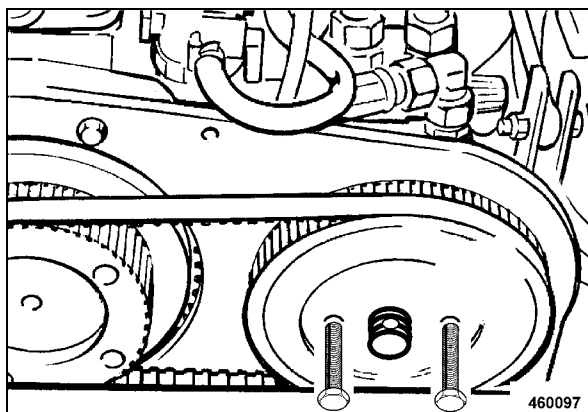

Fig. 132
- Use two forcing screws M8 X60 to press the toothed belt pulley off the retaining taper (Fig. 132) and take off toothed belt with toothed belt pulley.